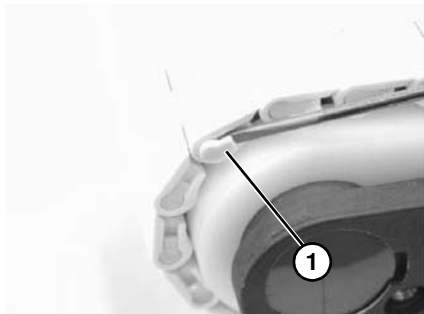

Figure 37
1. Choose one link on the idler end of chain to remove endcaps. With a 2.4 mm flat blade screwdriver, pry under tab of end caps (**Figure 37, item 1**) and remove end cap. Repeat for opposite side of conveyor.